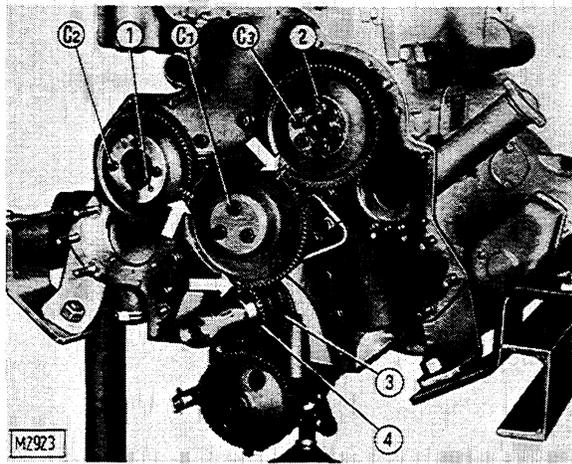

Fig. 14 - Gear train assembly.
- Remove timing gear housing cover (fig. 14).
- Remove capscrews (**C3**, fig. 14) and withdraw camshaft gear.
- Remove capscrews (**C1**, fig. 14) and withdraw idler gear.
Engine oil pump drive gear (3, fig. 14) and crankshaft gear (4, fig. 14):
- Install the gears to the associated shafts, ensuring that the timing marks are matched (1-1, 2-2, 3-3, fig. 14). Install the idler gear last, after gears (1 and 2) are properly meshed.
- Remove camshaft gear capscrews (**C3**, fig. 14).